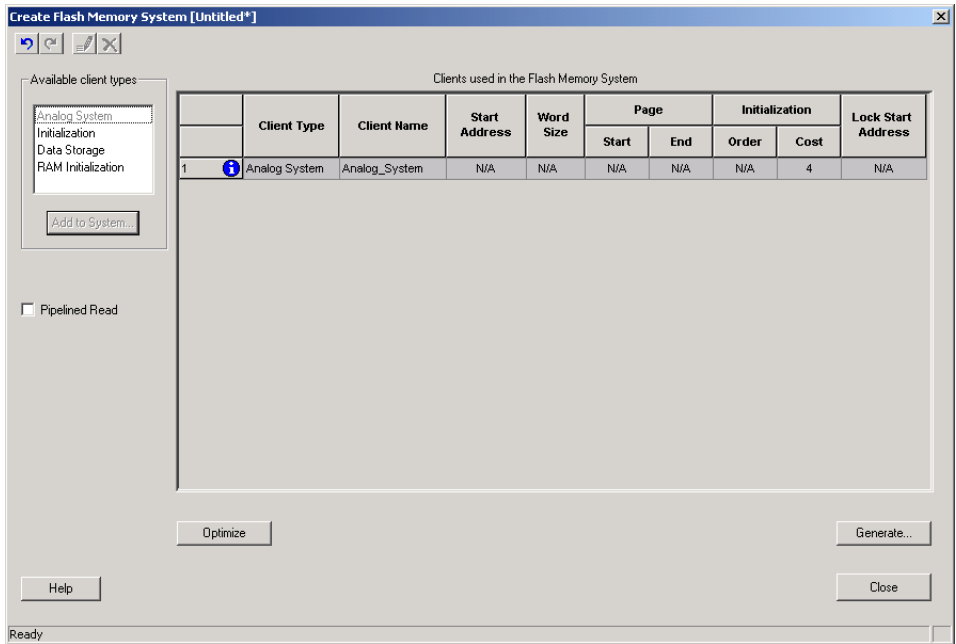

Figure 1-16. Flash Memory System with Analog System Client Added
5. Click OK. The Analog System Client is added to your Flash Memory System (Figure 1-16).